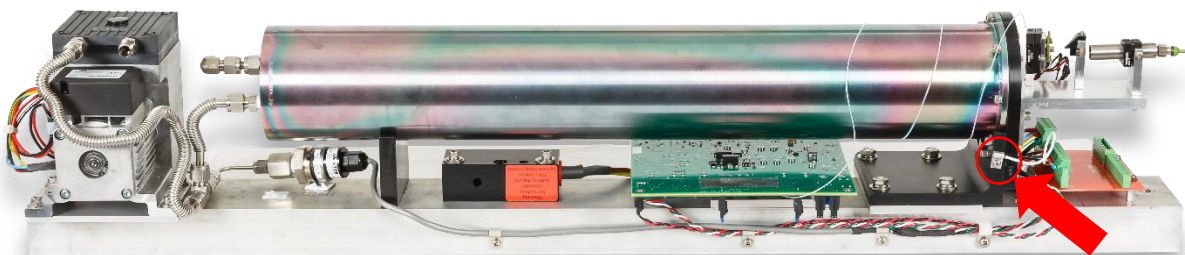

Figure 55: Location of RTD Connector
4. Locate the RTD connector shown in Figure 55.